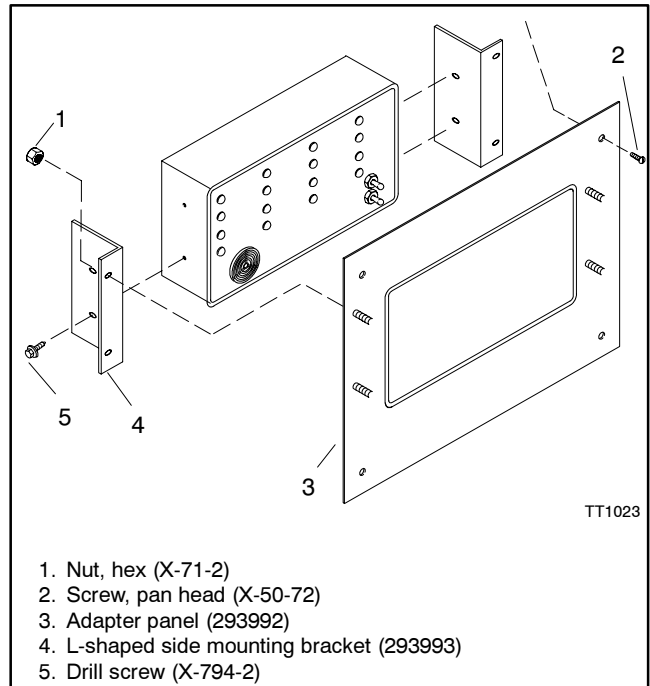

Figure 8 Flush-Mount Remote Annunciator Installation
6.3.1 Reassemble the front panel to the back panel using two drill screws (X-794-2). See Figure 8.